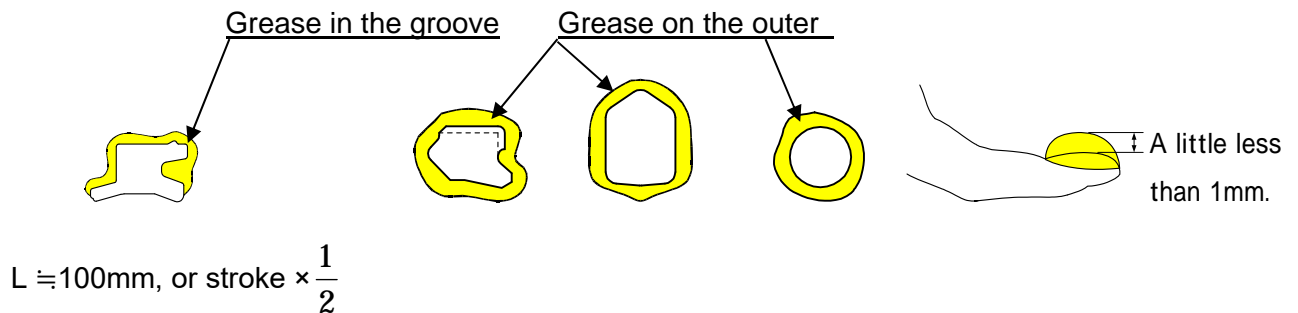

Fig. 14 Position for application of grease
Grease is applied to the locations shown in Fig. 14. The amount of grease per cylinder of 100 stroke is shown in attached Table 9. Roughly, one scoop with a forefinger is approximately 3g.
- 1) Rod seal, Cushion seal (Fig. 14,)
- 2) Piston seal (Fig. 14,)
- 3) Tube gasket (Fig. 14,)